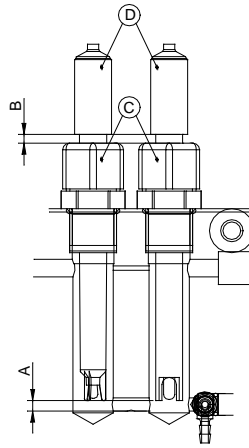

Figure 8 - Detail of the pair of electrodes assembly
To assemble the electrodes (Figure 8, pos. D), proceed as follows:
- Insert the electrodes, being careful to leave less than 10 mm from the bottom of the Plexiglas seat in the probe holder (Figure 8, pos. A)
- Manually tighten the ring nuts (Figure 8, pos. C), being careful to avoid breaking the transparent plastic of the said electrodes